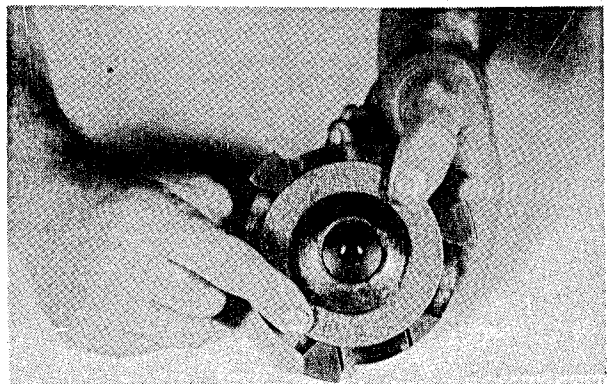

Figure 7
4. Before tightening locknut, make sure the valve is free to move in the cage. Press valve down and then allow springs to return valve to its position against the seat as shown in Figure 7.